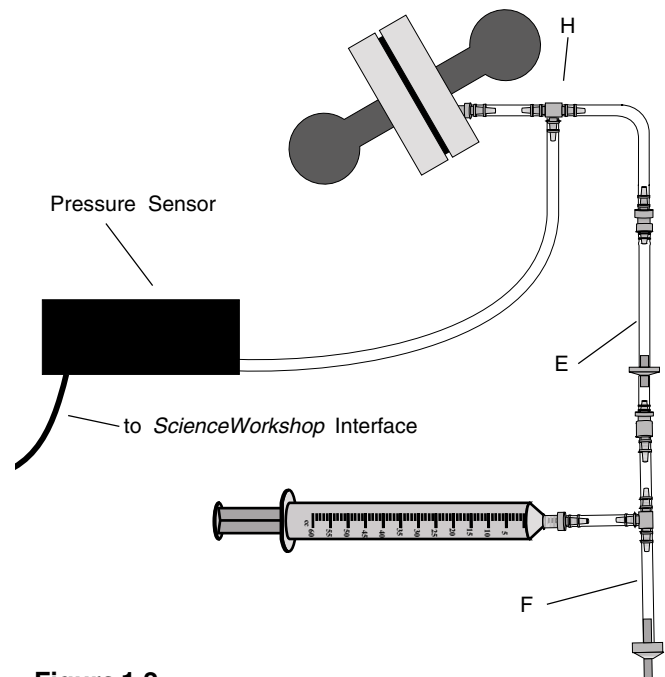

Figure 1.2
2. Assemble the Magdeburg Plates with the connection for *ScienceWorkshop* (Figure 1.2), and pull a vacuum in the interior chamber with the vacuum pump.